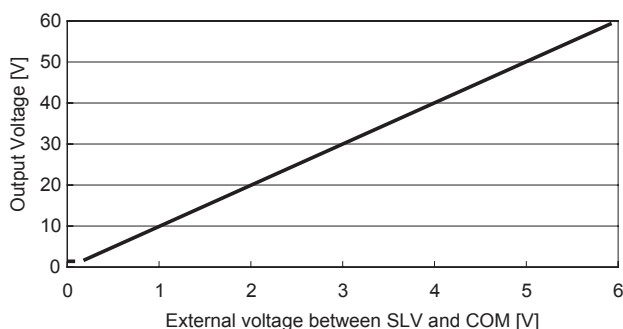

Fig.5.1 Relationship between the voltage of the terminal SLV and the output
- Output voltage is accordance with Fig.5.1 against the external voltage. The calculation formula is ① as following.